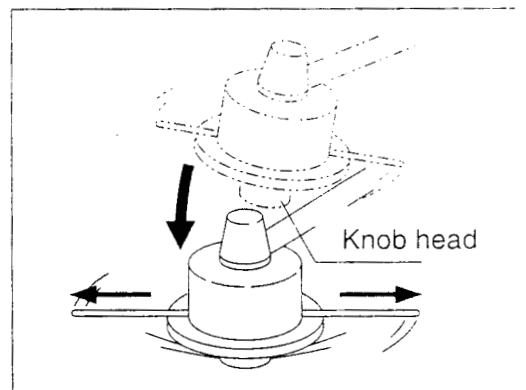

Fig. 42
2. When the nylon cord wears down (becomes short), decrease the engine speed to under 4,000 RPM and tap the knob of the nylon cutting head against the ground to advance the nylon cord (Fig. 42).